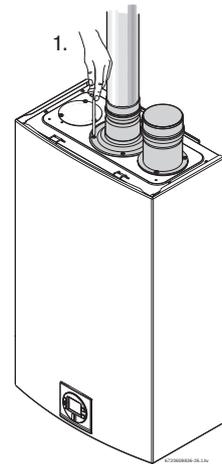

Fig. 16 Exhaust connection
- ▶ Attach the flue gas exhaust accessory to the top of the unit Fig. 16 (position 1) using the 4 screws and gasket provided, and fully insert vent pipe into the accessory. If using 4" venting, a 3" to 4" increaser should be installed directly after this accessory.